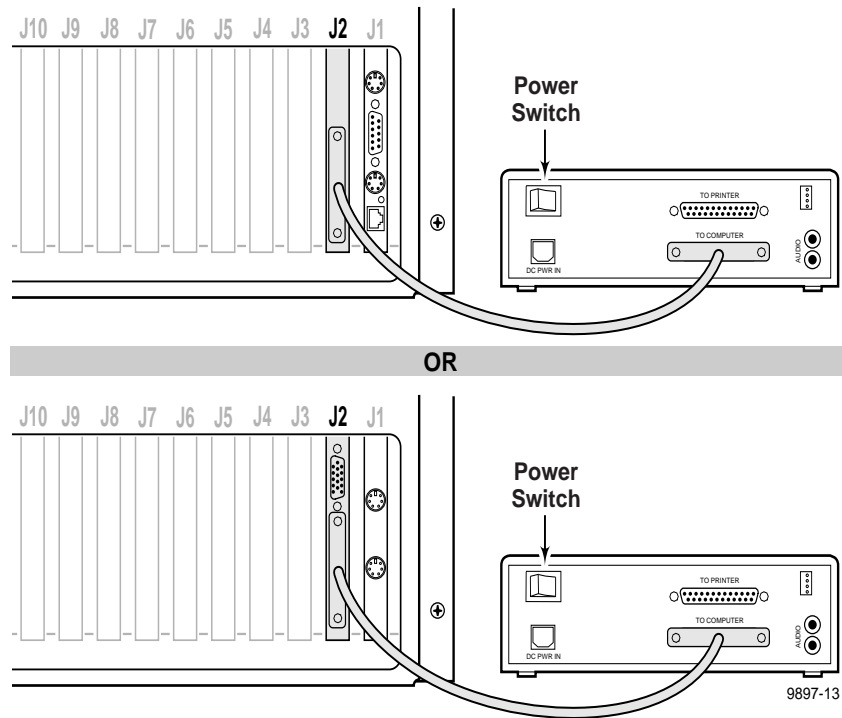

Figure 1. CD-ROM drive cabling for the PDR200, PDR300, and PDR400
2. Connect one end of the parallel cable to the CD-ROM drive's **TO COMPUTER** connector and the other end to the parallel port on the Profile system as shown in Figure 1.